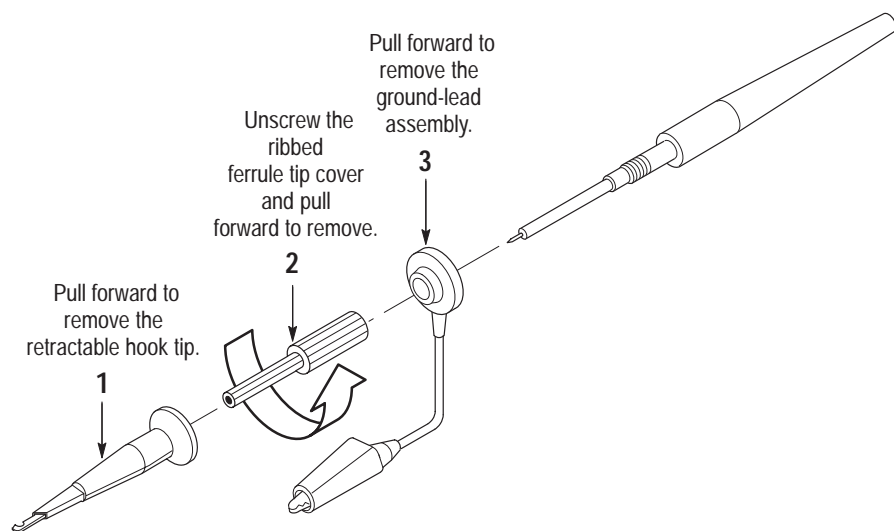

Figure 5–5: Exposing the inner probe tip
a. *Expose the Inner Probe Tip:* Follow the instructions in Figure 5–5.
- Connect the output of a high-frequency sine wave generator, through its leveling head, to a female-to-female adapter. See Figure 5–6.